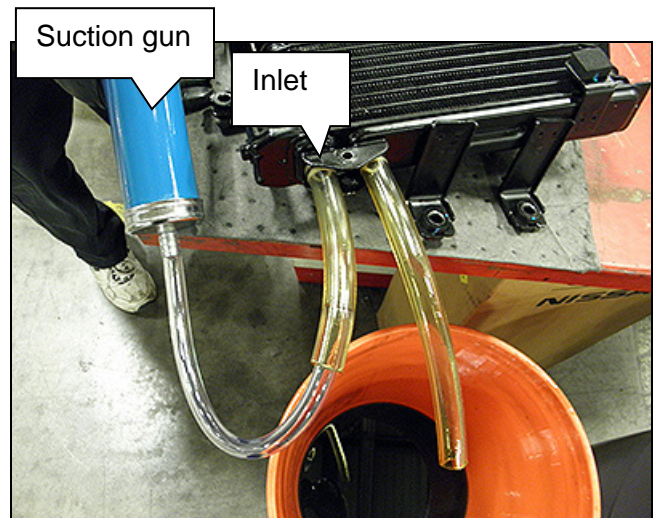

Figure 9
11. While holding the hoses securely to the auxiliary fluid cooler (Figure 9), flush 2 full quarts of NS-3 (or equivalent) with a 1 pint suction gun.
- Flush from the inlet side of the auxiliary fluid cooler through to the outlet (Figure 9).